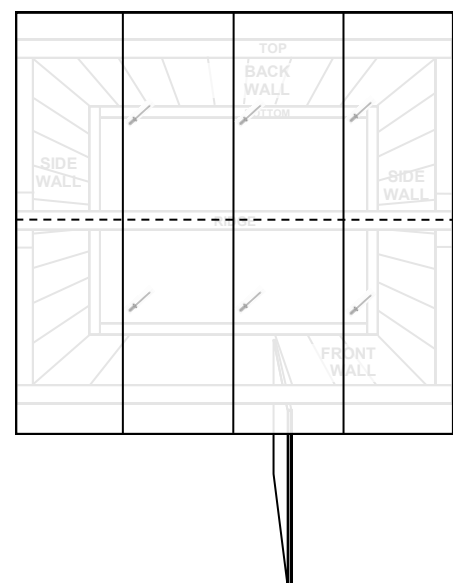

fig. 3
- Rivet sheets together at overlaps, one rivet either side of the ridge beam (**fig. 3**).